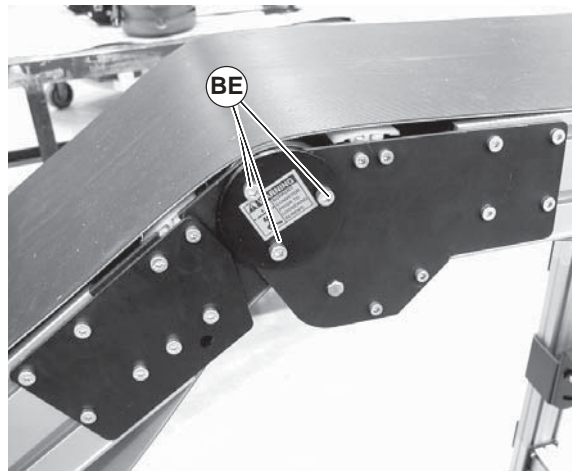

Figure 42
2. Loosen screws (Figure 42, item BE) on both sides of knuckle.
4. Tighten screws (Figure 42, item BE) on both sides of knuckle to 100 in-lbs (12 N-m).